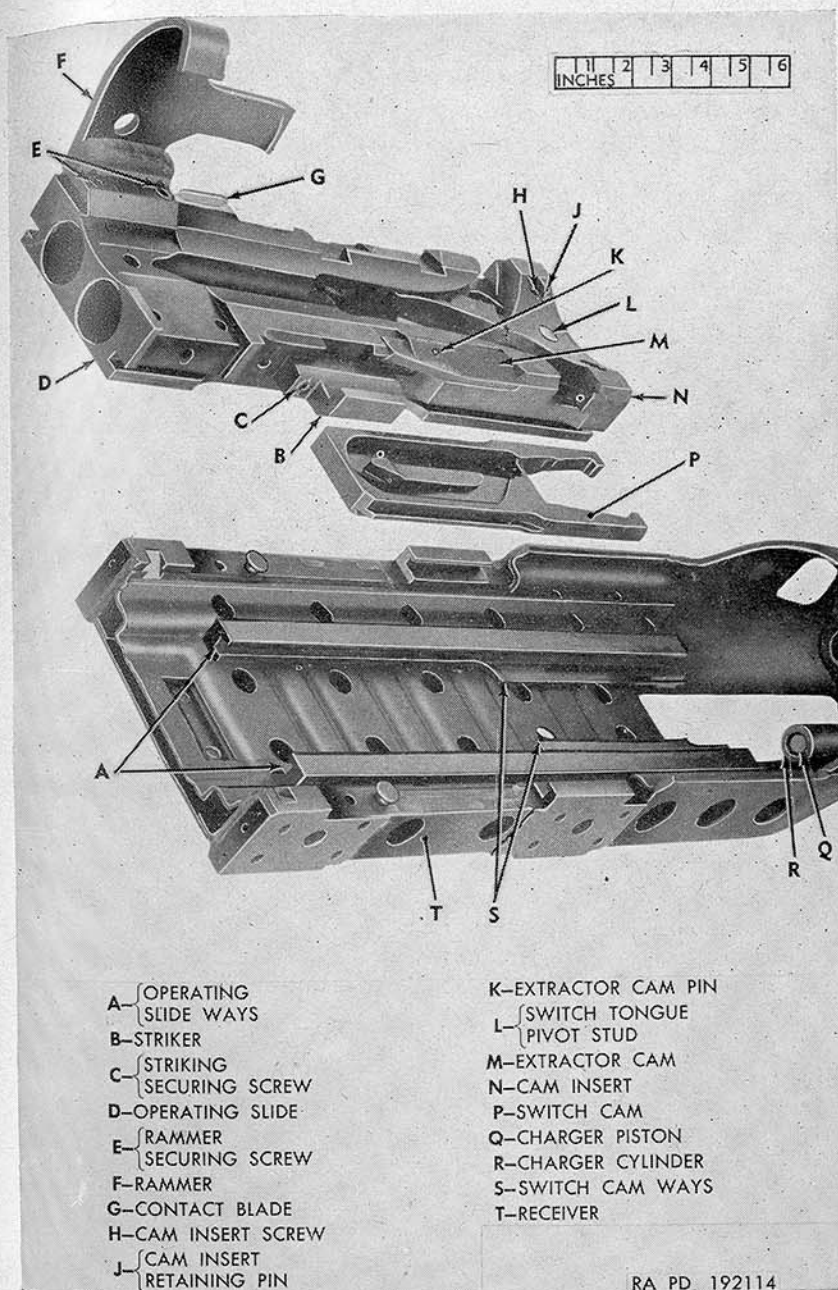
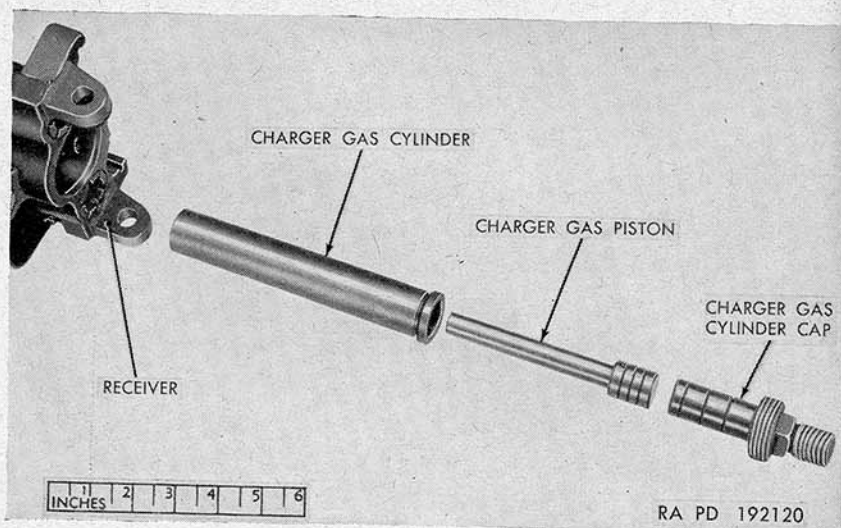

Figure 74. Operating slide and switch cam removed from receiver.
Figure 80. Charger gas cylinder group removed from receiver.
a. The operating slide (fig. 74) and switch cam ride in ways in the bottom of the receiver. The switch cam is a recoiling part of the gun since it is attached to the drum cradle. The switch cam causes the switch tongue of the operating slide to pivot during cycling, thereby changing the cam path in the operating slide (par. 41).
b. Mounted on the operating slide is the striker for actuating the extractor (fig. 74), the contact blade for breaking the electric circuit (par. 42), the rammer for stripping and chambering, and the extractor cam used to insure positive action of the extractor (par. 45). The cam path, machined into the operating slide, engage the rollers of the drum assembly to cause drum rotation during cycling (par. 41).
- e. Pull the operating slide rearward and out of the operating slide ways. The switch cam will be withdrawn with the operating slide (fig. 74).
(figs. 74 and 75)
b. Insert both units into the bottom of the receiver. Move forward until the grooves in the operating slide engage the operating slide-ways (fig. 74).
- c. Continue to move slide and cam forward, keeping switch cam ahead of operating slide at all times. Move the switch cam into the switch cam ways (fig. 74).
b. The charger gas piston and charger gas cylinder (fig. 74) extend through the forward end of the receiver to contact the forward face of the operating slide, when the slide is in battery position. Gases developed by firing one cartridge (par. 48) drive the charger piston rearward against the operating slide. This causes the slide to cycle once, in the same manner as described in paragraphs 37 through 49.
d. The receiver is the basic unit of the gun. It is provided with a casting at its forward end which houses the tube (par. 50), cradle bearing (par. 71), recoil spring groups (par. 40b), gas tube (par. 39a), and charger cylinder (b above). The rear area of the receiver serves to accommodate the feeder assembly and the drum cradle. In its base are the operating slide and switch cam ways (fig. 74).
- (5) Push charger cylinder and piston (fig. 74) out from the rear of the receiver (fig. 80).